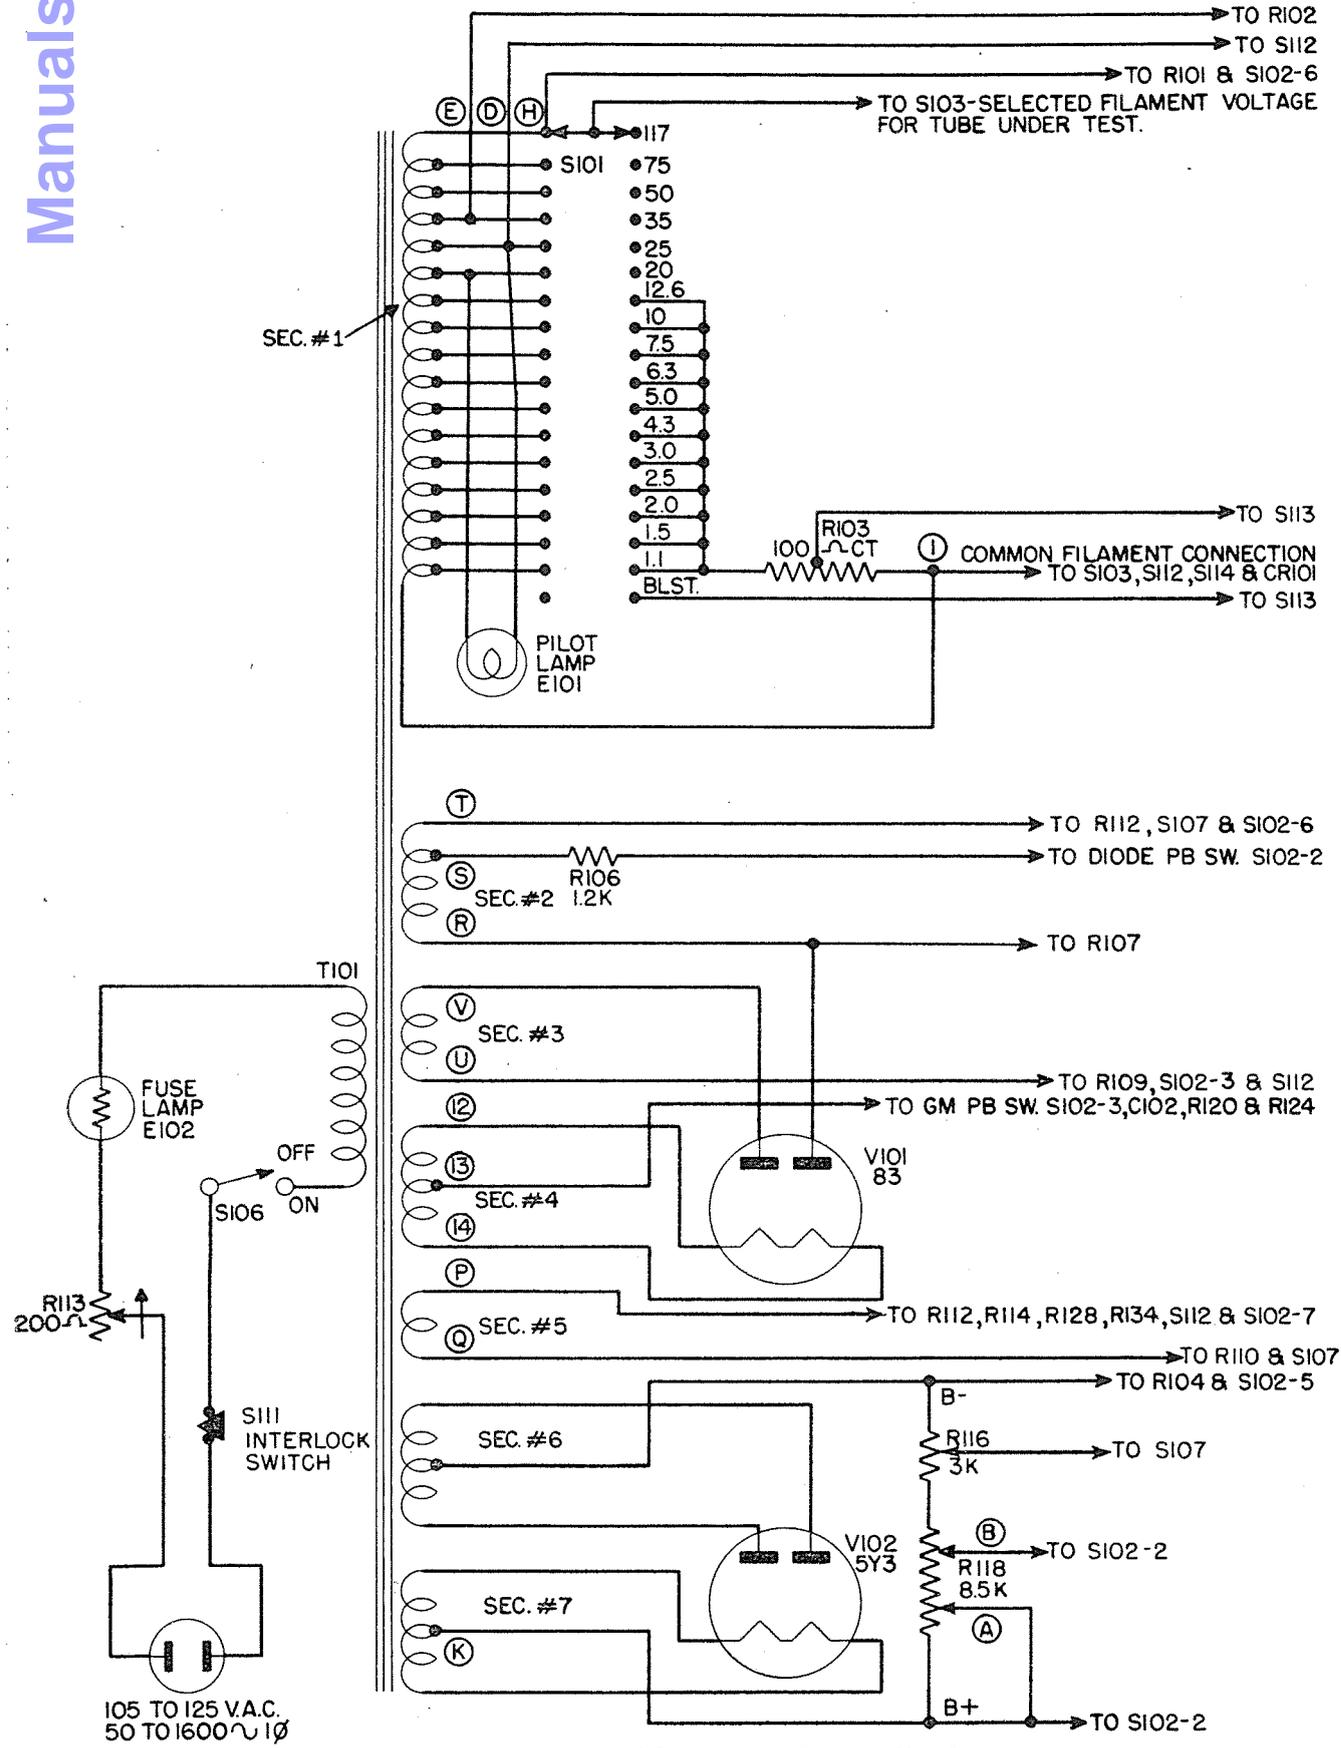

Figure 2-3. Simplified Power Supply Circuit
(See Figure 2-3)
b. Secondary #1 of power transformer T101 consists of a multi-tapped winding designed to supply the various filament or heater voltages for the tubes under test. Voltages shown on Figure 2-3 are measured under load. No load voltages will be somewhat higher. For example: no load voltage measured from point (H) to point (I) will be approximately 124 volts with 93 volts on the primary. Secondary #1 also supplies voltages for rectifier emission tests.
a. Pressing the LINE ADJ. push button P1 connects the METER, M101, through resistor R101 and copper oxide rectifier CR 101 to points (H) and (I) of the power supply (Figure 2-3).
b. The values of R101 in series with the meter and R131 and R133 in shunt are such that 124 volts RMS across (H) and (I) of the power supply will cause the METER M101 to read at LINE TEST.
c. The design of the power transformer T101 is such that 93 volts applied to the primary winding will induce 124 volts across the total secondary #1 winding or across points (H) and (I).